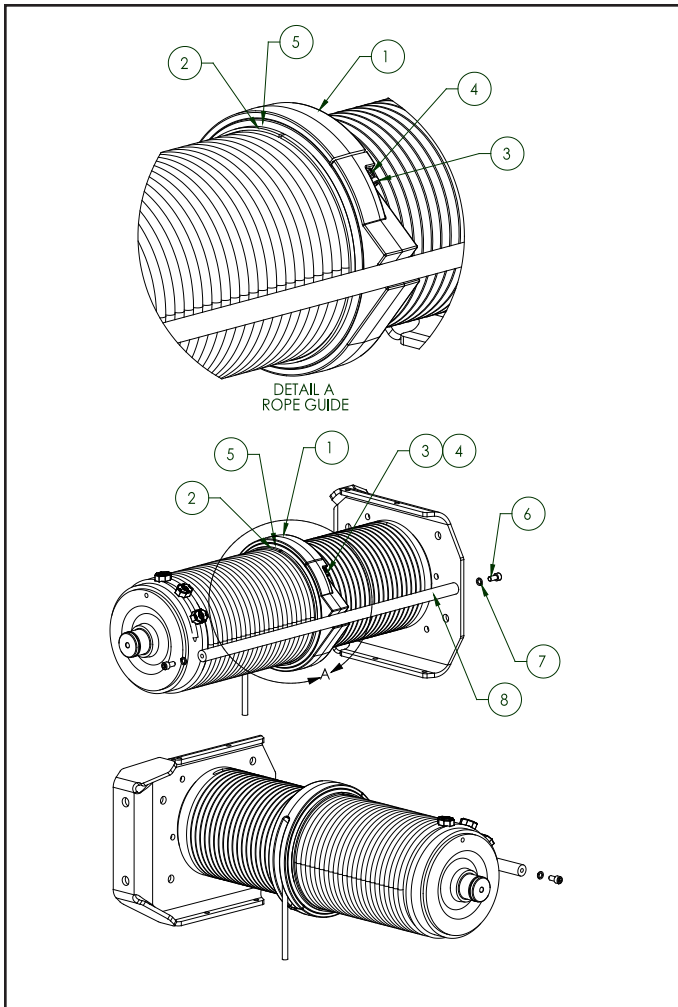

Figure 5-3a. Rope Guide Assembly ("B" & "C" Frame)
b) **Disassembly for "B" & "C" Frame.** Refer to Fig. 5-3a. For further assistance in locating components, refer to the parts list in Section IX.
- (1) Remove socket head cap screws and lock washers (Items 6 and 7). Remove drum frame rod (Item 8).
- (2) Remove shoulder bolts (Item 3) and compression springs (Item 4). The two halves of the rope guide body (Item 1) can now be pulled off the drum separately. When reassembling be sure that the half with the rope slot is on the top half of the drum.
- (1) Thread rope to drum from trolley frame side then secure with rope clamps as follows:
- (2) With all personnel clear of hoist - TURN ON POWER.
- (3) Operate hoist "UP" guiding six (6) wraps of new rope into drum grooves with gloved hand.
- (4) Reinstall rope guide over rope in rope drum grooves as shown in Figure 5-3a. & 5-3b. and outlined in Section V, Paragraph 5-5. Continue lubricating as rope is spooled onto the drum until about 28'-0" remain unwound.